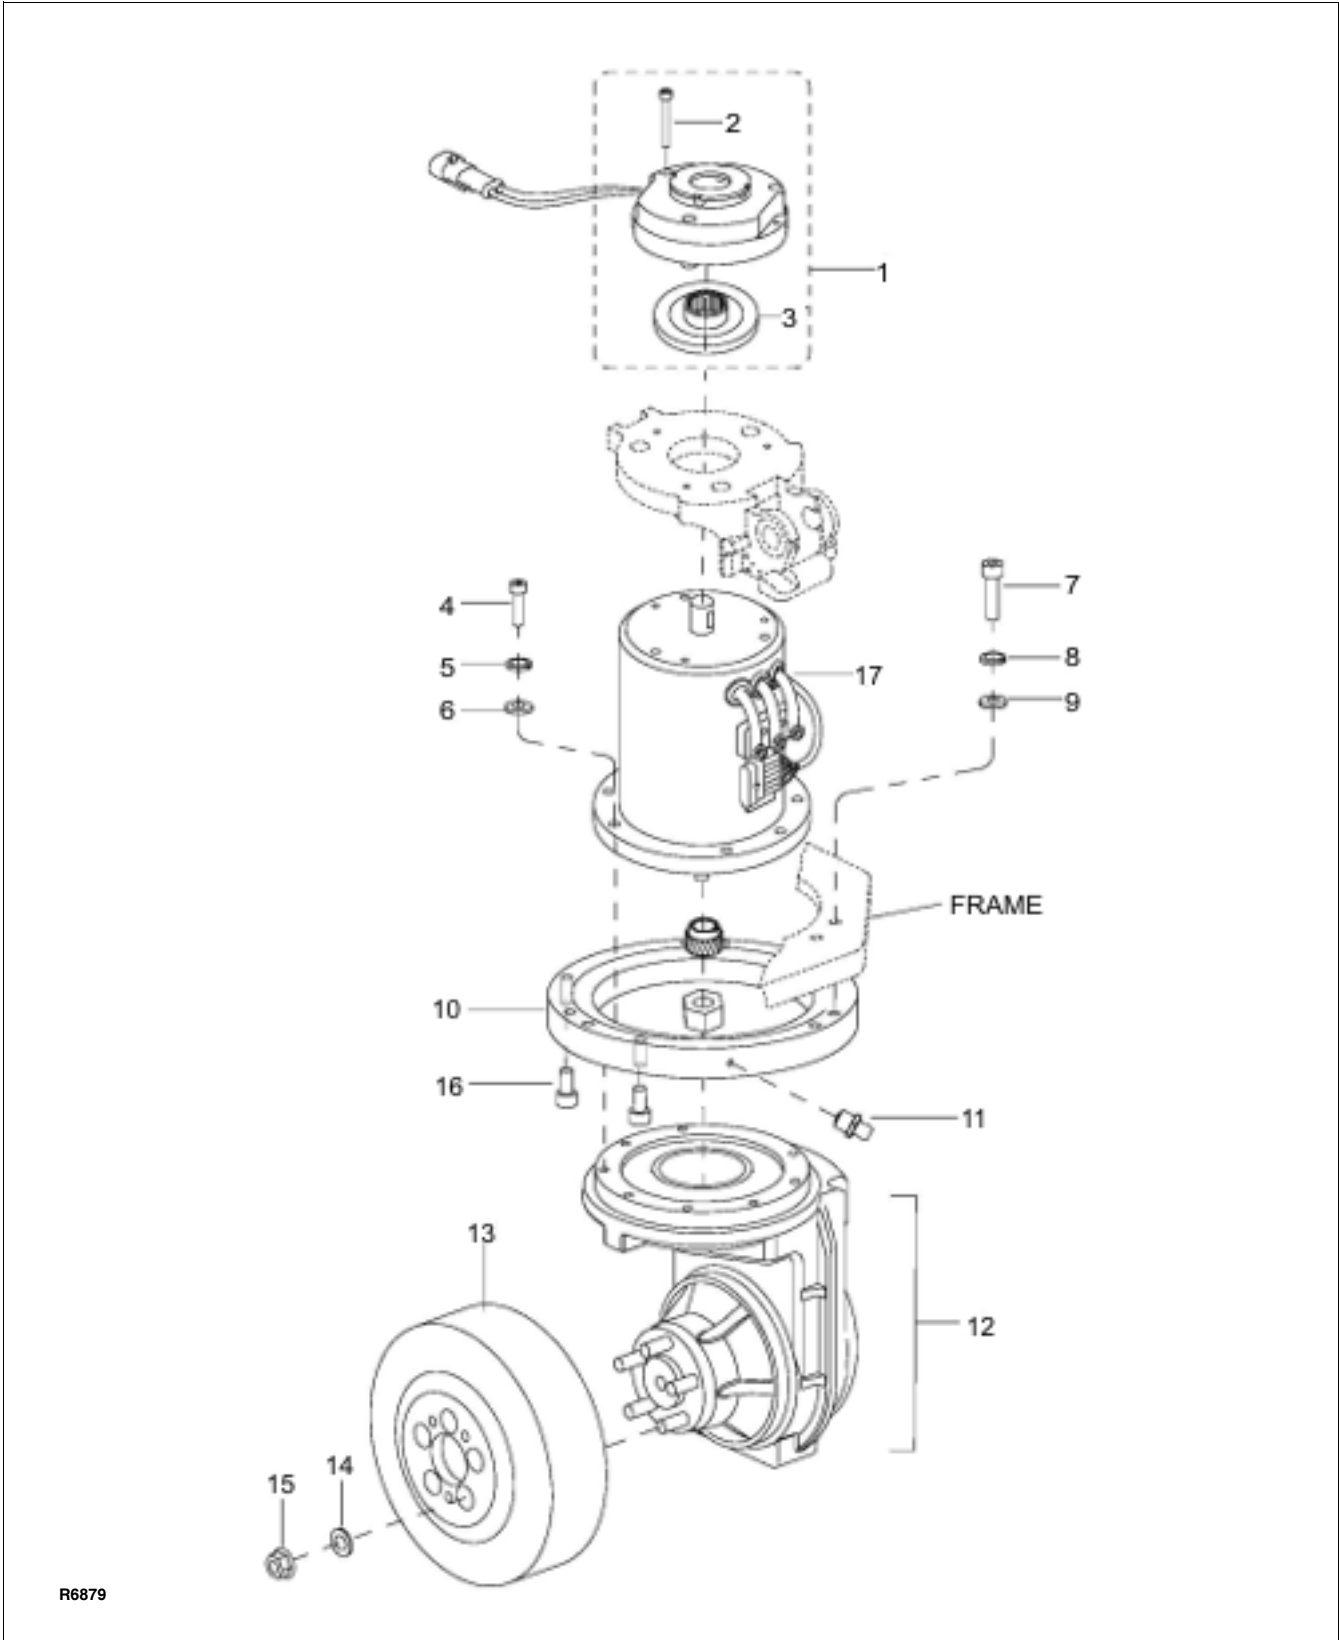

Figure 10-3 Transmission, Motor, Brake Assembly
1. Remove the drive wheel (13) as described in paragraph 7-1.
2. Remove the brake (1, Figure 10-3) as described in paragraph 6-1.1.
6. Remove three screws (26, Figure 12-1) and three lock washers (27) to free brake plate (17) from motor (17, Figure 10-3)
7. Remove eight screws (4), eight lock washers (5) and eight flat washers (6).
8. Remove drive motor (17) from transmission (12).
9. Remove the nut and gear from the shaft of motor (17).